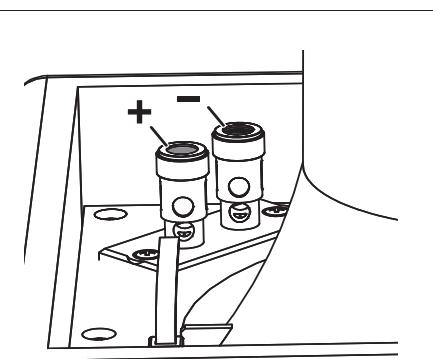

Figure 13: BPS-1 Connection Terminals
4. The speaker's positive connector post is labeled with a red dot; the negative post is labeled with a black dot (see *Figure 13*). Push the top of each connector post down to open the connector and insert the exposed wires into the holes in the posts. Double-check that you connected amplifier "+" to speaker "+" and amplifier "-" to speaker "-".